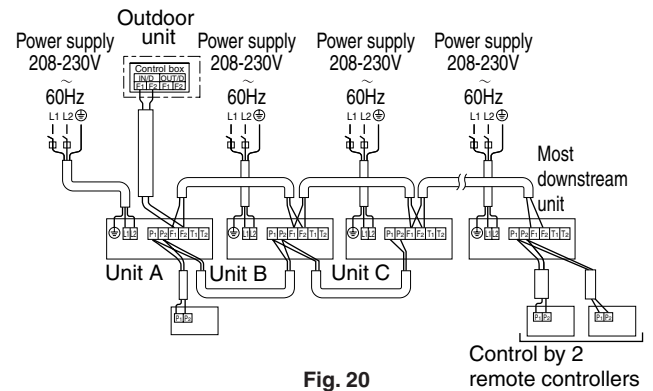

Fig. 20
- Add the second remote controller (slave) to the transmission terminal block (X2M/P1, P2) in the electrical components box. (There is no polarity.) (Refer to Fig. 20 and 9-3.)**